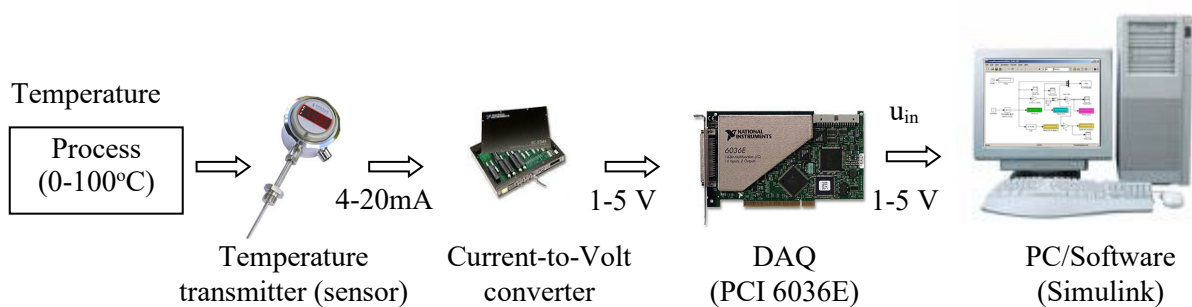

Figure 30 PC-based temperature measuring system
A PC-based temperature measuring system is shown in **Fig. 30** in which the signal is processed as: $0-100^{\circ}\text{C} > \text{mV} > \text{mA} (4-20 \text{ mA}) > \text{SC-2345: } 1-5 \text{ [V]}$. The voltage signal (1-5V) is acquired by the DAQ (and software).
1. Level Measurement System: A PC-based level measuring system is shown in **Fig. 30** in which the signal is processed as: 0-400 mm > mA (4-20 mA) > SC-2345: 1-5 [V] – DAQ : 1-5V (software). Make a Simulink model to simulate the level measuring system (you can modify the above simulation program).